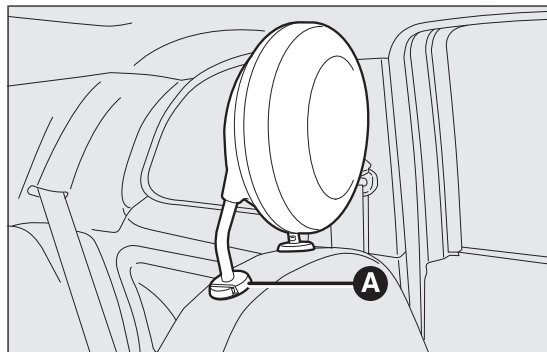

fig. 20
**Downwards adjustment:** press the button A fig. 20 and lower the head restraint.